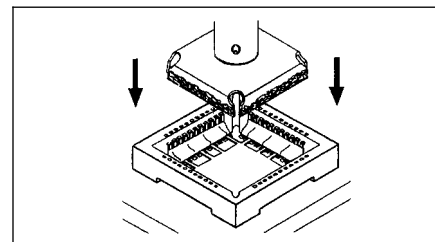

Figure 3 Position Tip
9. Fully insert tip into component contacting ALL leads with tip. (See Figures 3 & 4.)